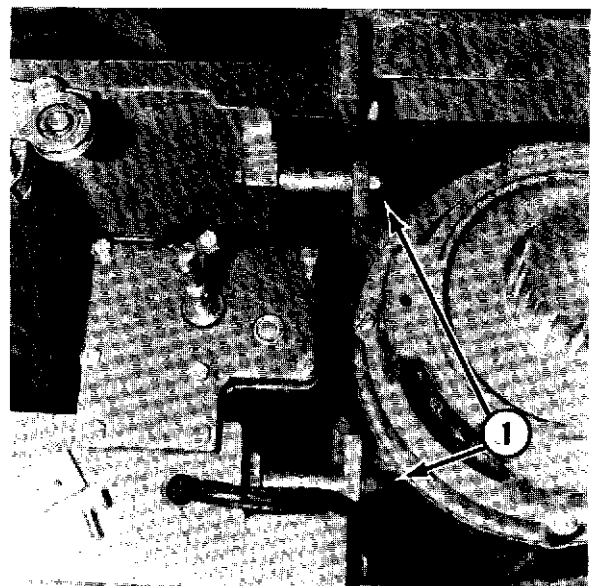

Fig. 8-5
- K. Loosen the two top motor mounting bolts (1, Fig. 8-5), and remove the shims. Note the location of each full shim as it should be reinstalled in the same position which it was removed.